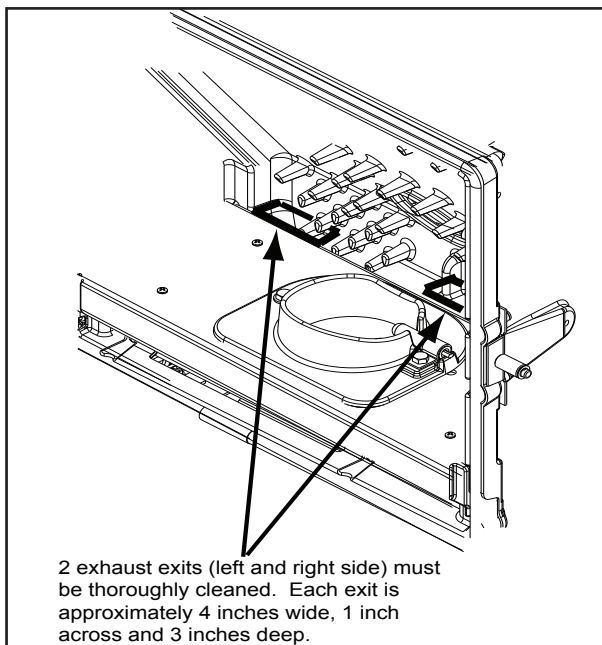

Figure 25.2
- d. Use the crevice tool to finish cleaning the heat exchanger fins. It is critical that the 2 exhaust exits at the back of the firebox floor (left and right) be thoroughly cleaned. **Figure 25.2.** There are several ways this can done.